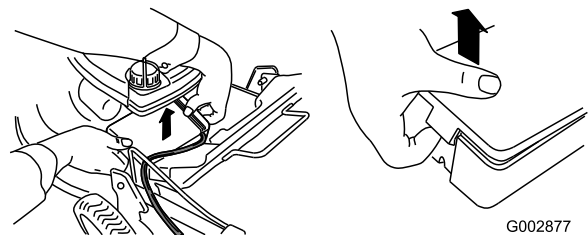

Figure 8
- Unclip both ends of the battery cover and remove it (Figure 8).